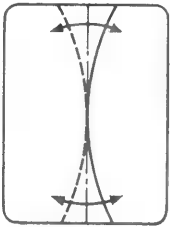

Fig. 4
- 6. Tilt the DY up and down, match the R and B for H line of center. (Fig. 4)